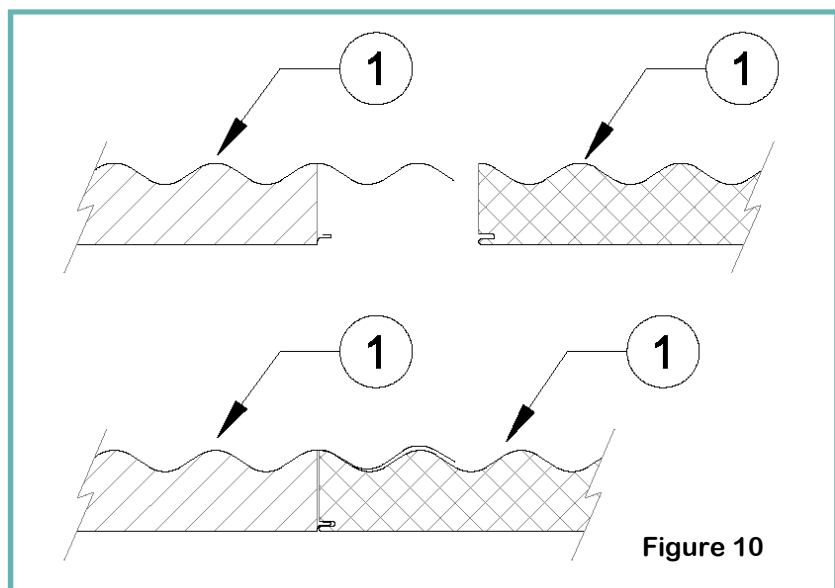

Figure 10
The separate roof panels are locked together as shown in Figure 10 with the corrugated overlap on one side of the panel overlapping the adjacent panel.
The second roof panel is then positioned against the first roof panel by sliding into the mating connection between the two panels as shown in Figure 10. This second panel is then secured to the receiver channel using wafer head screws (item 17). Take care not to damage the roof panel surface when sliding the panels together.